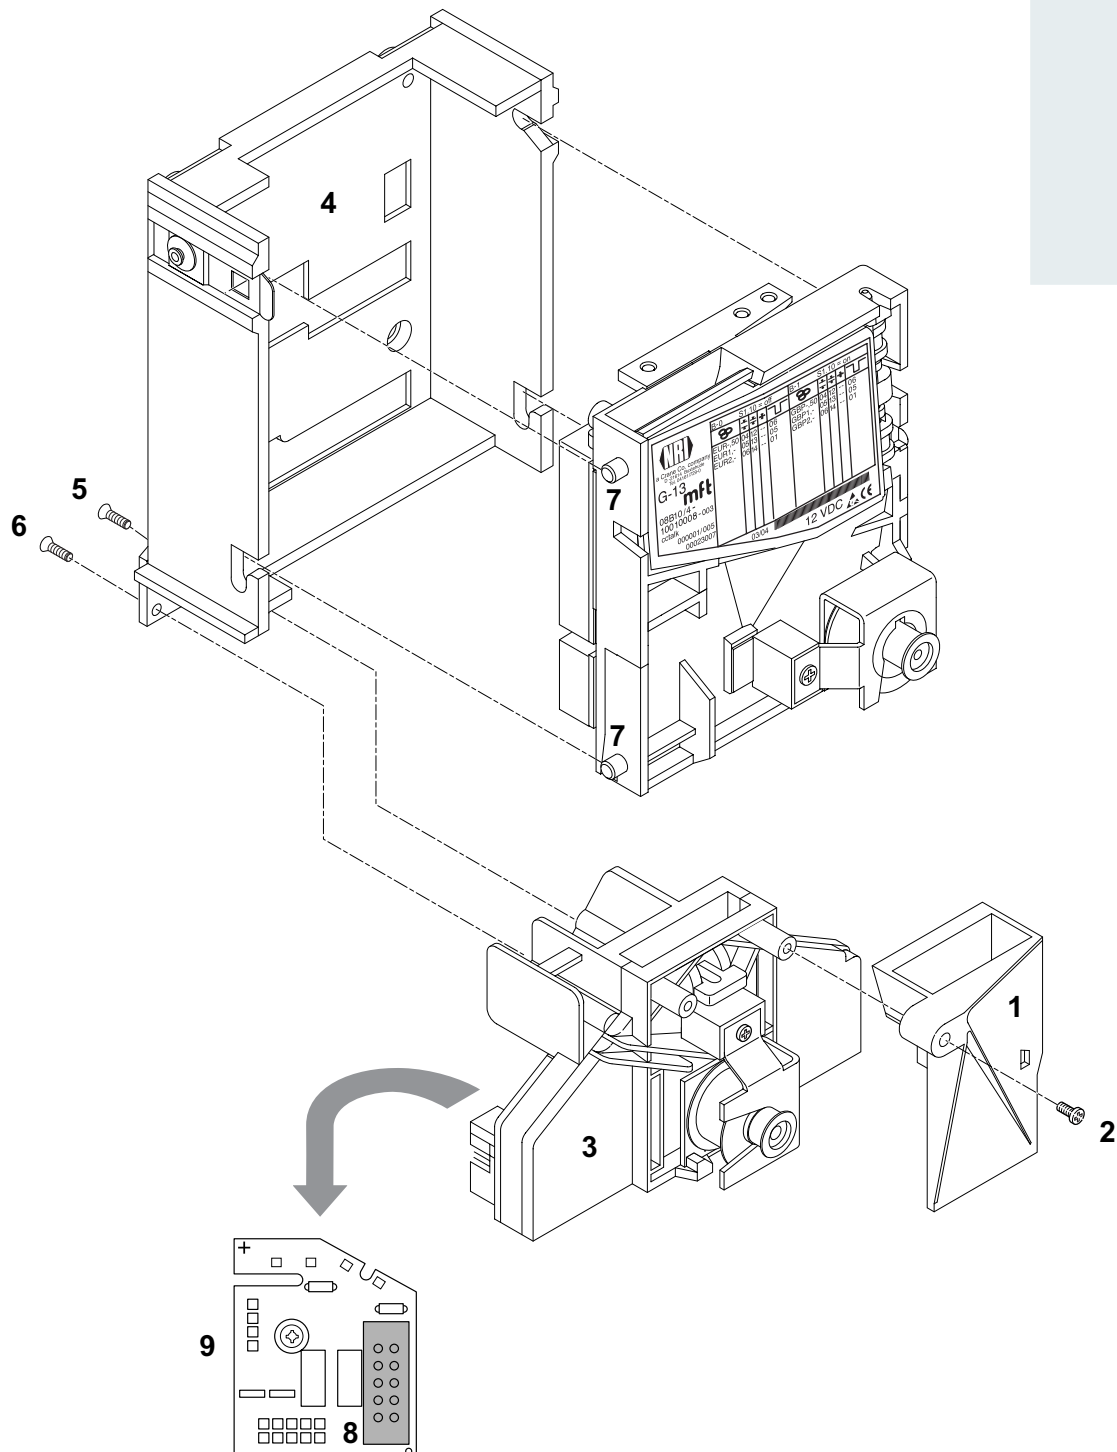

Fig. 5: Connect G-13.mft, top entry model, to NRI sorting device
- 1** If necessary, fasten chute extension **1** with screw **2** to sorting device **3** (see Fig. 5).